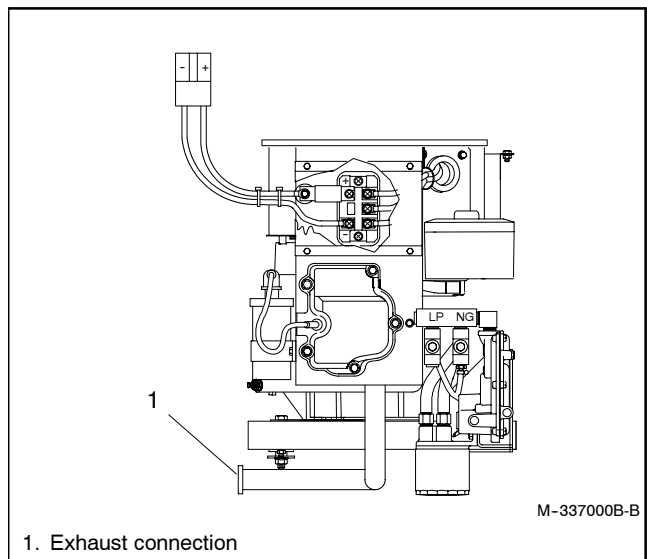

Figure 3-3 Exhaust Connection
Use the following procedure to gain access to the generator set for maintenance or service. See Figure 3-3 and Figure 3-2.
6. Disconnect the engine exhaust pipe at the location show in Figure 3-3.